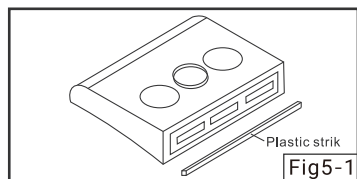

Fig5-1
- A. Take the plastic strip out from the accessory bag, tear off the tape. (Fig. 5-1)
- B. According to the back of the range hood, the stick the plastic strip onto the range hood. Press the plastic strip slightly to ensure that it is firmly stuck. (Fig. 5-1)